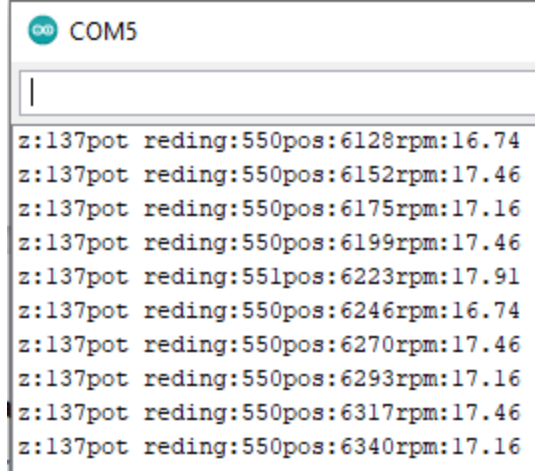

Figure 1: Arduino monitor reading
1. Encoder reading: pos variable from fig.1. The pos variable changed when encoderA is rising. When encoderB reading shows 0, the rotation is CW. When encoder reading shows 1 the rotation is CWW.
Figure1 has shown the reading from potentiometer: parameters named pot reading.